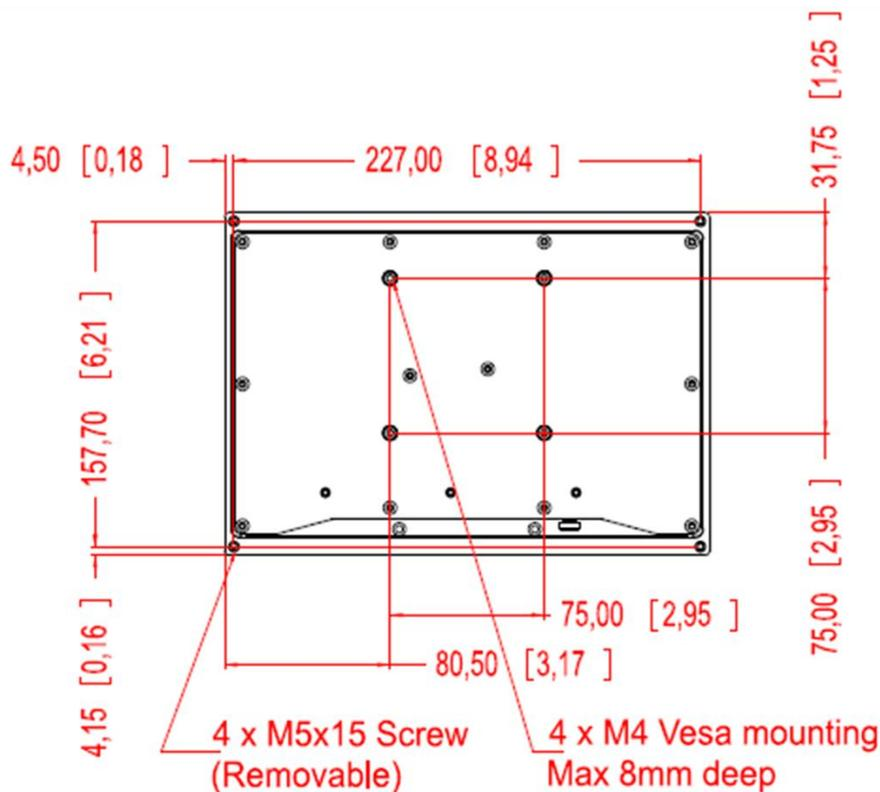

Figure 3 – TSM800C VESA Arm Mounting Retention Screw Holes
- Step 3:** Align the retention screw holes on the mounting arm interface with those in the TSM800C. The arm mount retention screw holes are shown in Figure 3.